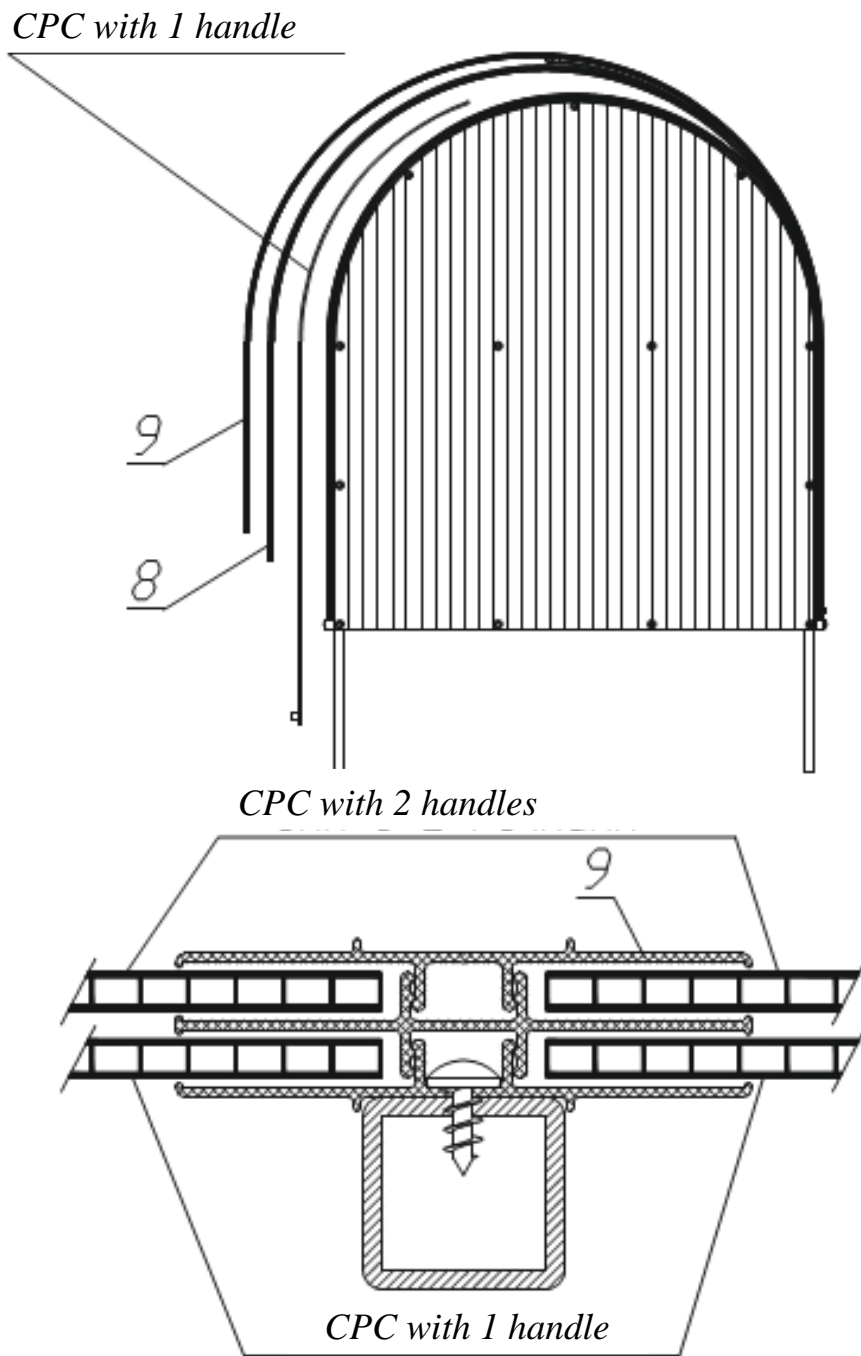

Fig. 15
6.2 The polycarbonate sheet with one handle-plank is inserted into the lower groove of the profile (Fig. 15, 16).